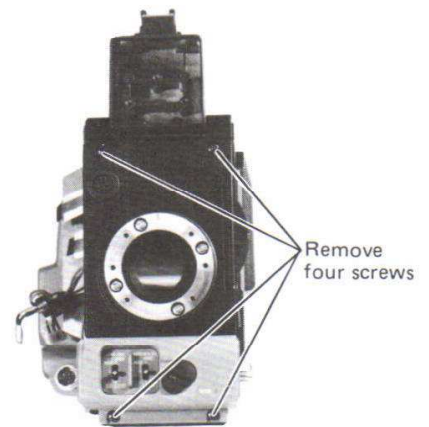

Fig. 3-5
- Remove four screws holding the front cover (M1) and remove the front cover. (Fig.3-5)